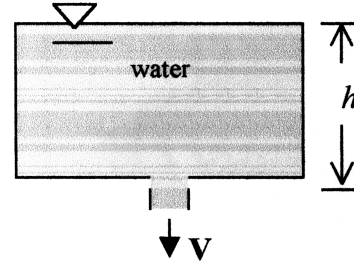

Fig. P3.28
3.28 According to Torricelli's theorem, the velocity of a fluid draining from a hole in a tank is $V \approx (2gh)^{1/2}$, where h is the depth of water above the hole, as in Fig. P3.28. Let the hole have area A_o and the cylindrical tank have bottom area A_b . Derive a formula for the time to drain the tank from an initial depth h_o .